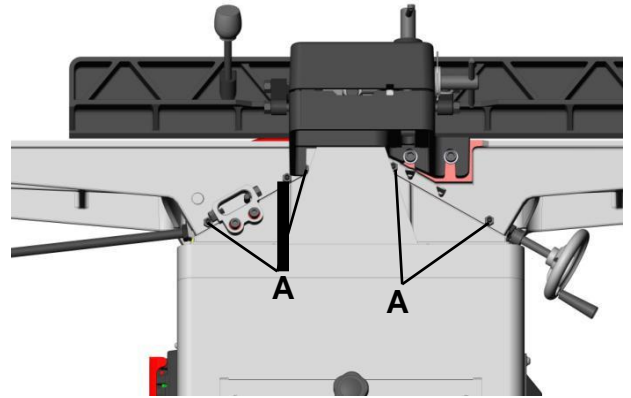

Fig. 23
1. Lightly loosen the gib adjusting screws (A), Figure 23. By loosening the lock nuts first the set screws should be loose enough to move the table.